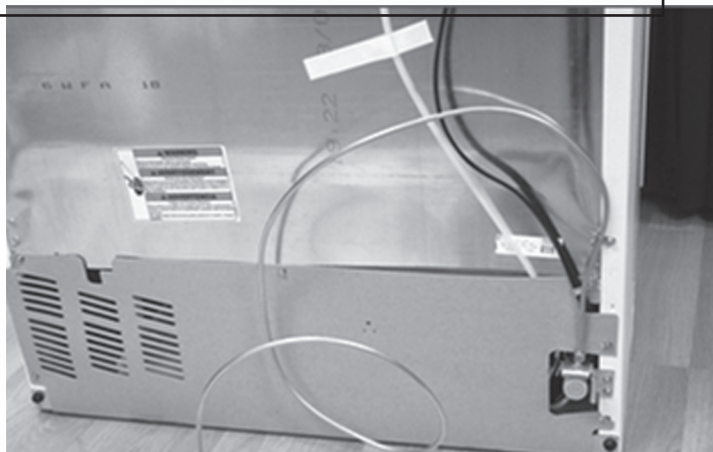

Figure 6
5. Form several loops of tubing to allow for the refrigerator to be moved away from the wall, see figure 6.